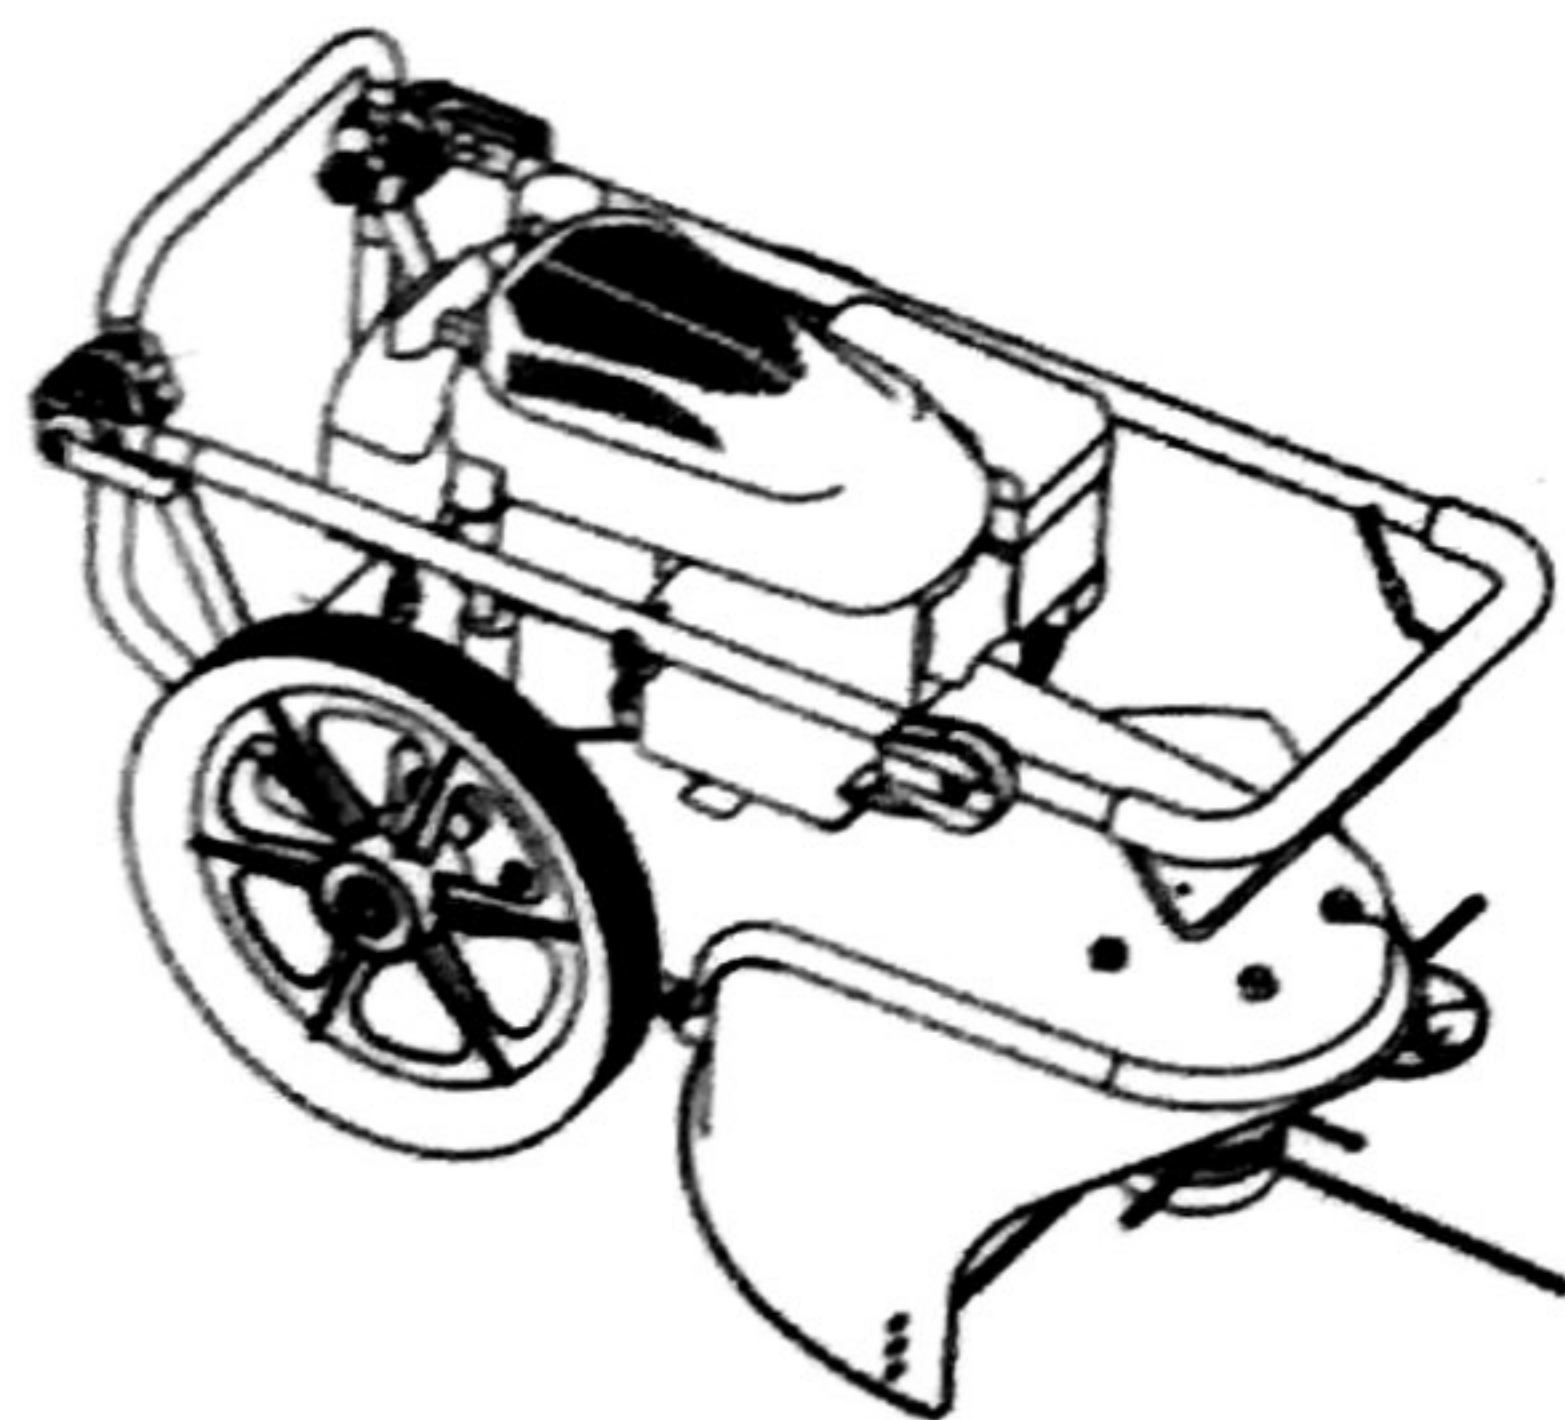

FIGURE 2: Your Wheeled Trimmer as it is shipped to you.
4. Pull the mower out of the carton. SEE FIGURE 2